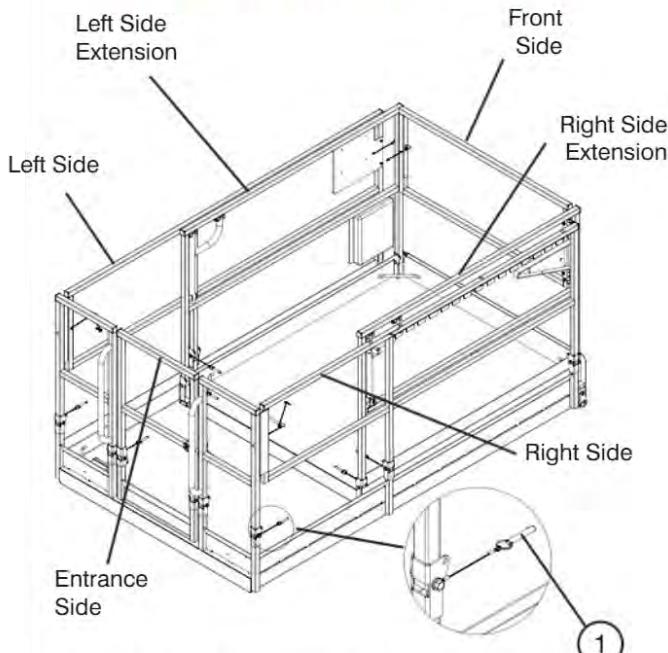

Figure 3-9a. Folding Guardrail System
9. Fold down guardrails in the following order: front, right extension, left extension, right-side , left-side and entrance (refer to Figure 3-9a).